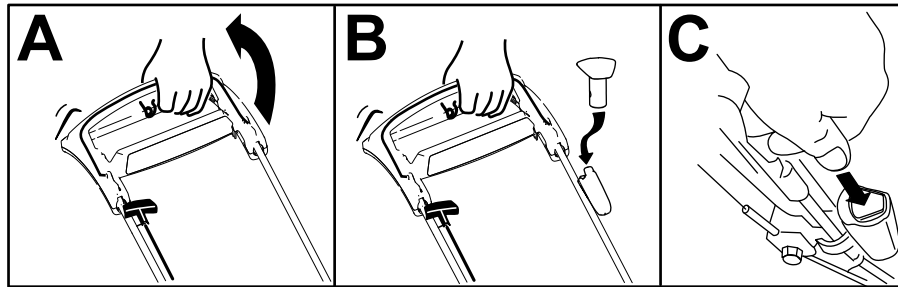

Figure 14
1. Hold the blade-control bar against the handle (A of Figure 14).
2. If the electric-start button has been removed, insert it in the electric starter (B of Figure 14).
3. Push the electric-start button until the engine starts (C of Figure 14).